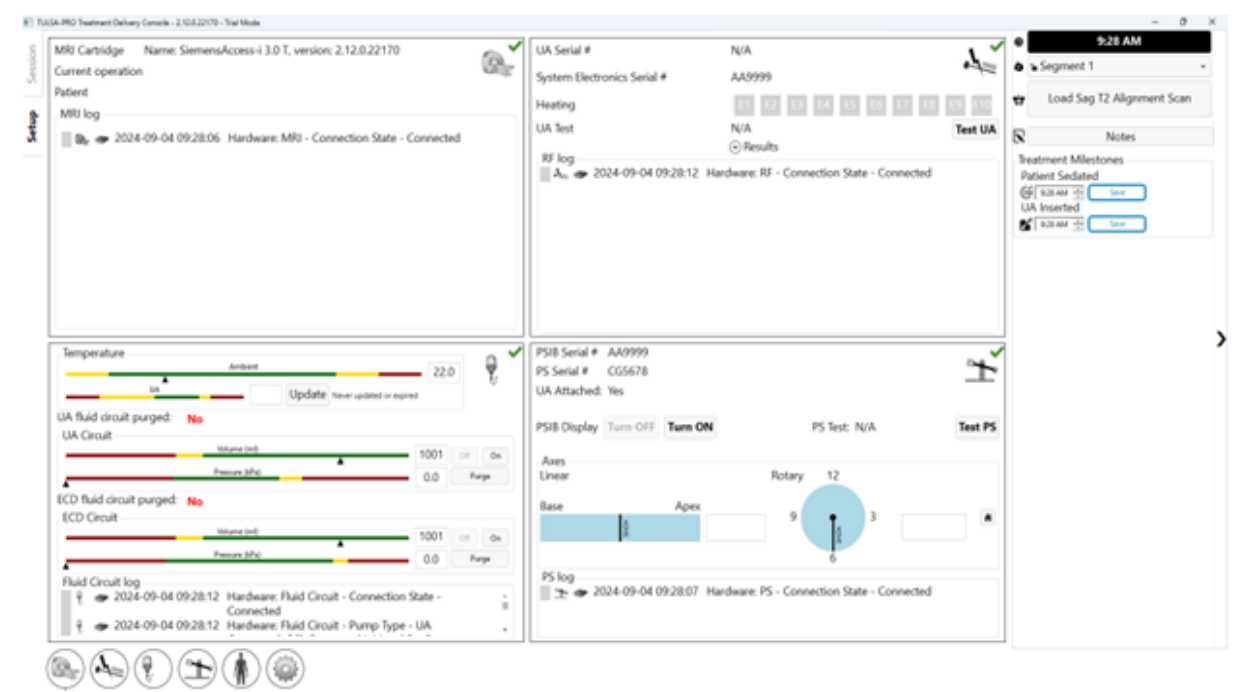

Figure 7: Setup workspace of the TDC software
3. After selecting **New Session**, you will enter the **Setup** Workspace (*Figure 7*) where you can ensure all equipment is functioning properly before proceeding.